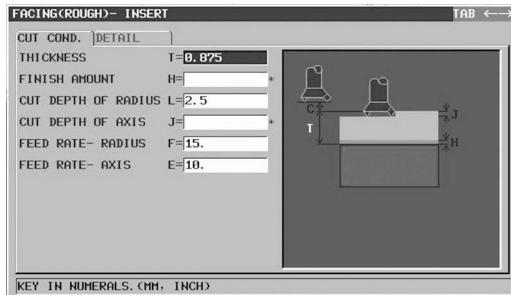

Figure 7-49 FACING (ROUGH) CUT CONDITIONS (MC)
- Complete the CUT COND. tab of the dialog, as shown in Figure 7-49.